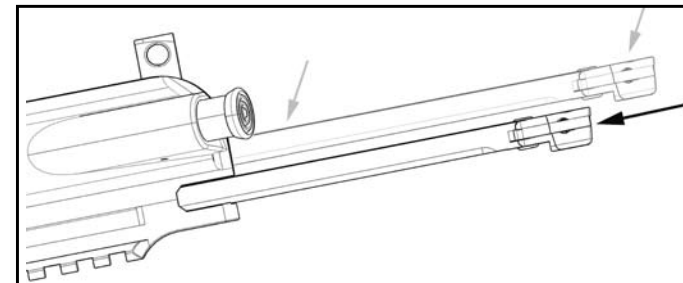

Fig. 62 – Charging Handle Installation
- f. Turn the upper receiver upside down, insert the charging handle into the upper receiver, align the lugs on the outsides of the charging handle with the recesses on the inside of the upper receiver then press down until the charging handle is flush with the inside of the receiver then press slightly forward (Fig. 62).